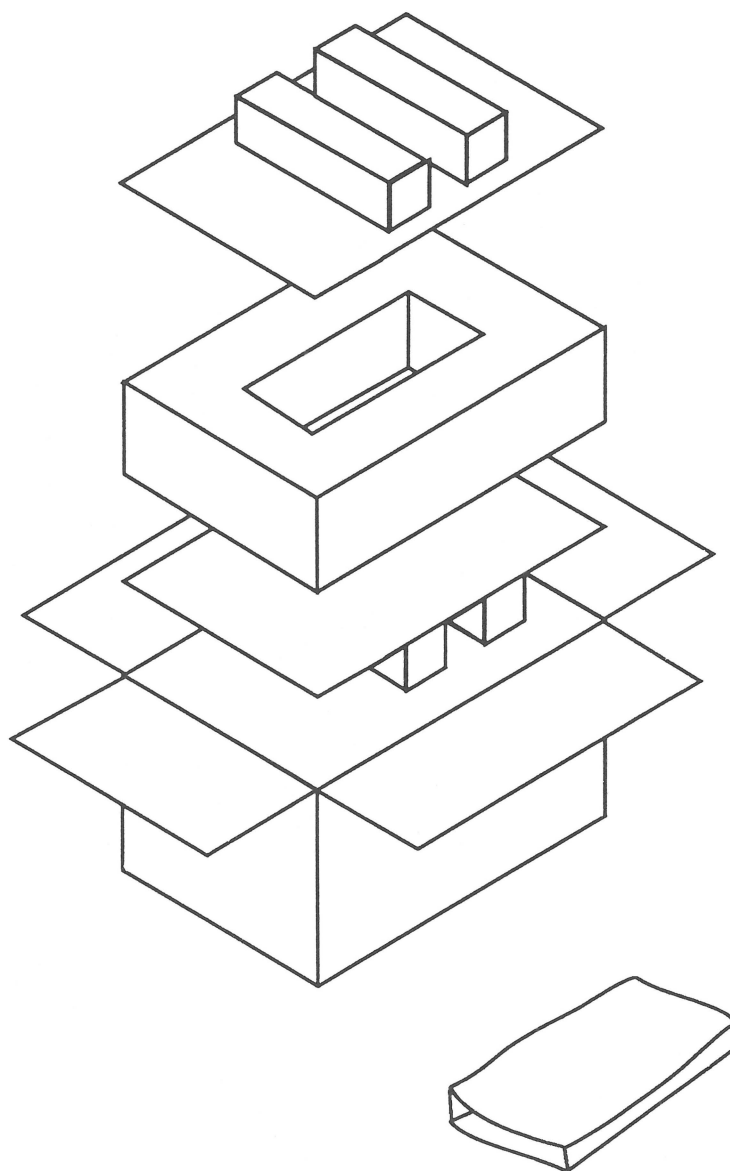

FIGURE 3
□ SERVICE PACKAGING, 800K/1.4 MB DRIVES (Figure 3)